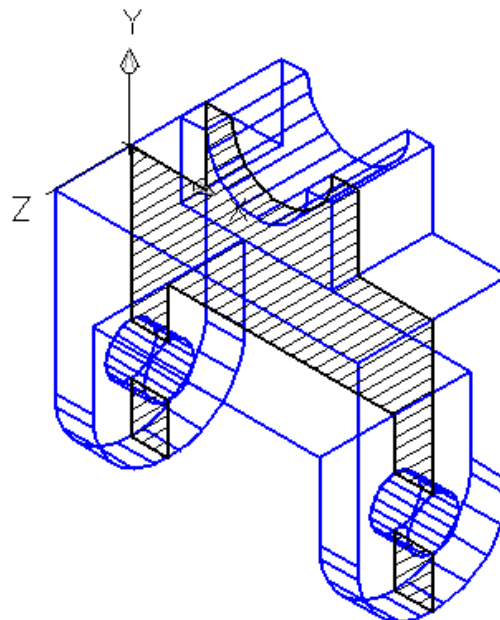

Figure Step 4
Step 4 On layer: Hatch, using the SECTION command, create a region at the cutting plane A-A. Crosshatch it with ANSI31. (Figure Step 4)